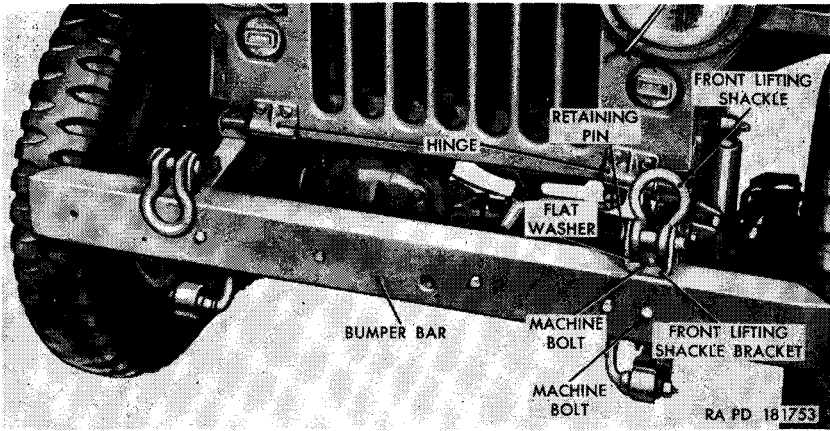

Figure 131. Bumper bar and front lifting shackles.
*a. Front Lifting Shackles with Brackets (fig. 131).*